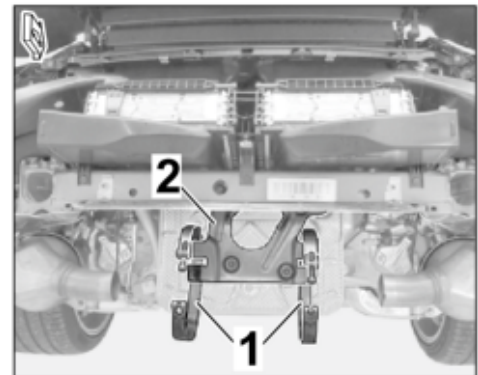

Figure 3
2.4.1 Engage new restraining straps (2 pc(s)) with screw heads facing downwards on the muffler holder (⇒ *Figure 3*).